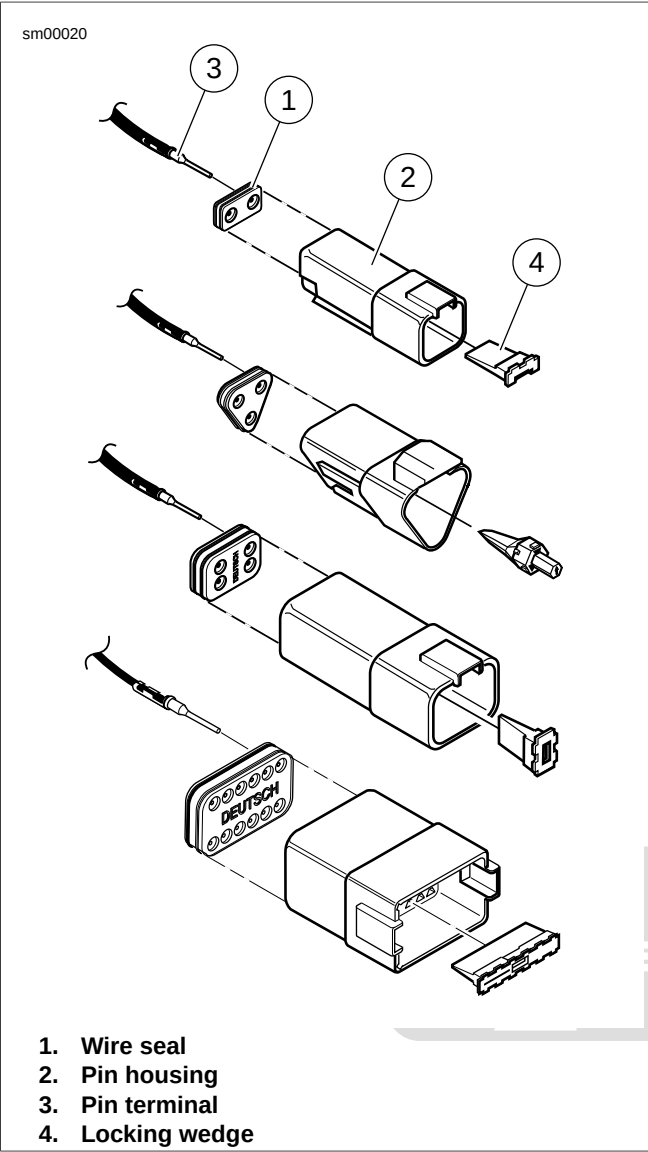

Figure A-18. Deutsch Connector: 2, 3, 4 and 12-Place Pin Housings
1. See Figure A-18. Fit wire seal (1) into back of pin housing (2).
2. Grasp wire lead approximately 1.0 in. (25.4 mm) behind the pin terminal (3). Gently push pin through holes in wire seal into its respective numbered chamber until it "clicks" in place.